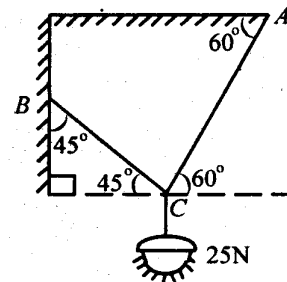

Fig. 1
1. (a) An electric light fixture, weighing 25 N, hangs from a point C by two strings AC and BC. The string AC is inclined at 60° to the horizontal and BC at 45° to the horizontal as shown in Fig. 1. Determine the forces in the strings AC and BC. 10